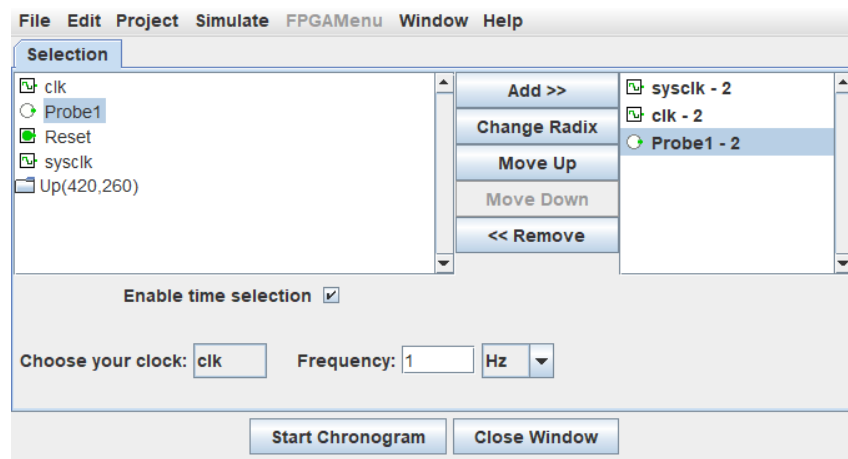

Figure 7.9: Chronogram Ready
9. The *chronogram* setup should look like Figure 7.9.